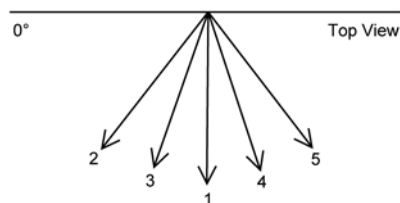

Figure 2
2. Manual horizontal airflow direction can be set using remote control; the angles of the vane are as stated below and the positions of the vane are as Figure 2 above.